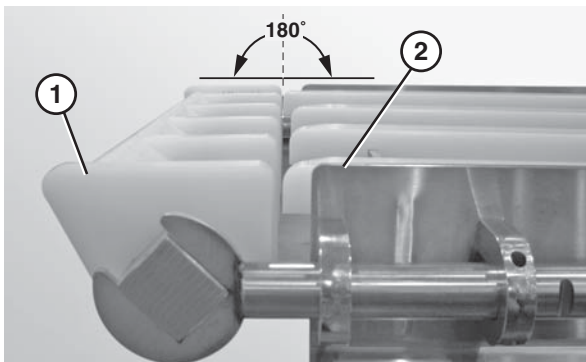

Figure 25
4. Ensure that the nose bar pucks (Figure 25, item 1) are in line with the conveyor frame (Figure 25, item 2).